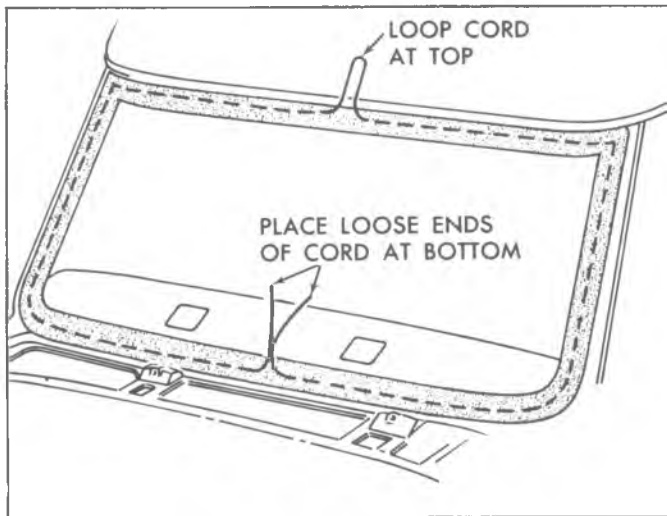

Fig. 9G—Cord Installation
2. Install a cord around periphery of weatherstrip, leaving a loop at the top and the loose ends at the bottom. See figure 9G.